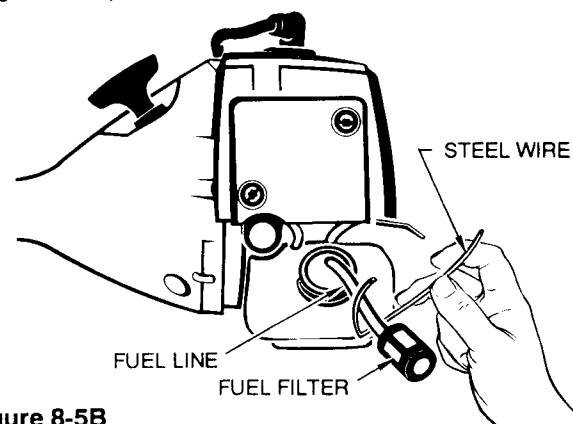

Figure 8-5B
1. Lift fuel line out of tank. Steel wire with hook or paper clip works well. (Figure 8-5B)